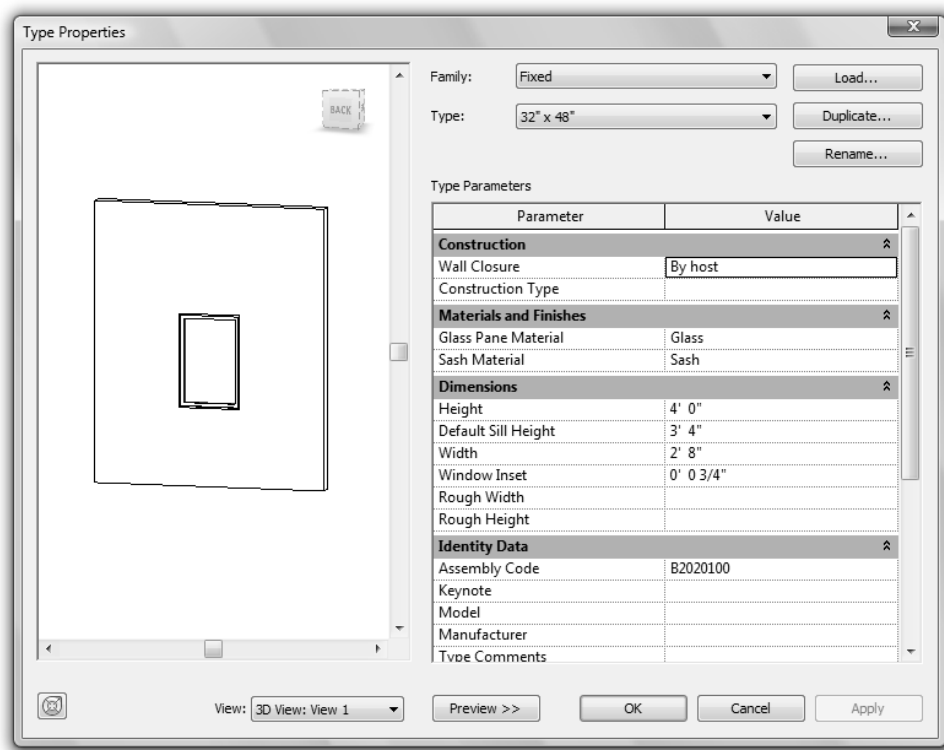

Figure 3-5.8 Added window size
15. Adjust the sill height for your new window size to fit within coursing as well. Set the sill height for *Fixed: 32" x 48"* to be **3'-4"** (Figure 3-5.8).